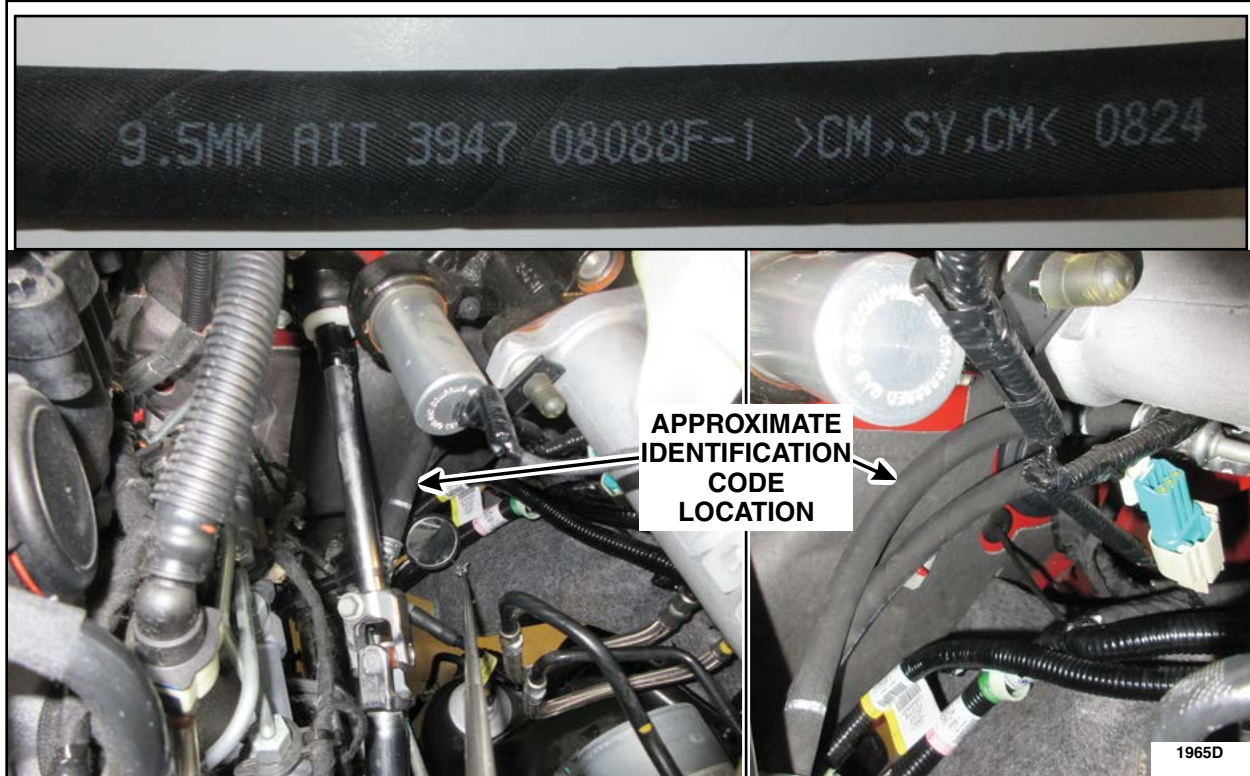

FIGURE 4
3. Locate and inspect the identification code on both power steering pressure hoses. See Figure 4.